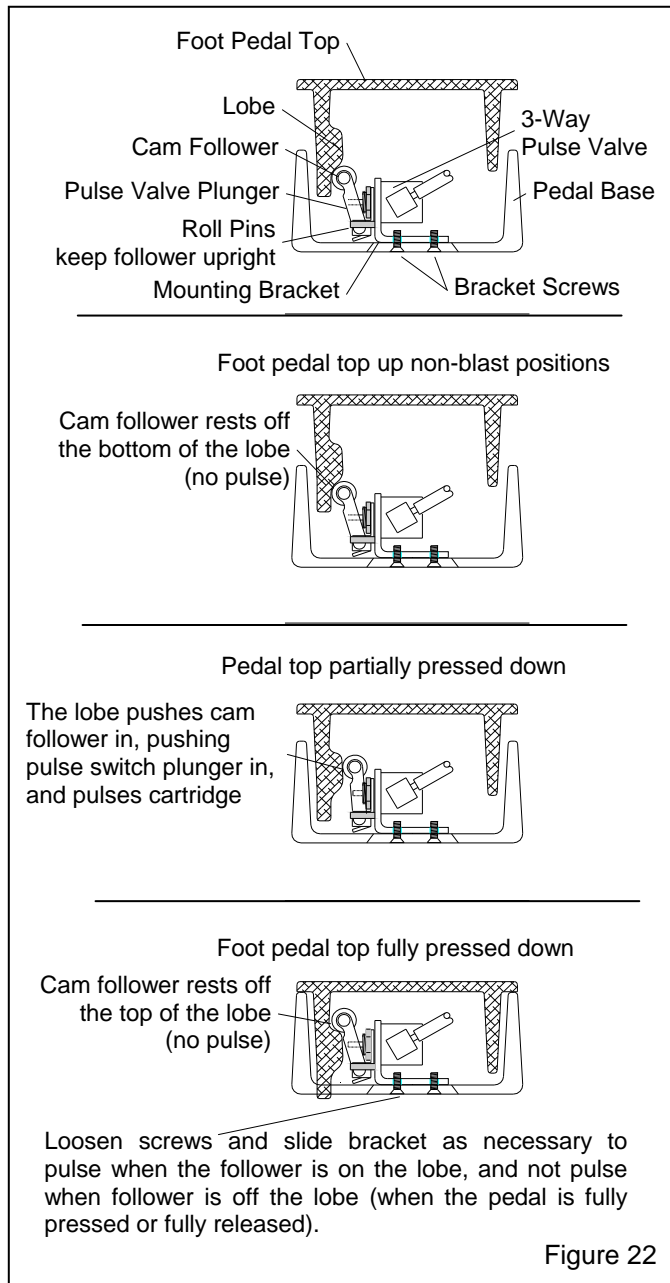

Figure 22
**8.15.2** Refer to Figure 22 and make sure the 3-way pulse valve has not come loose from the mounting bracket. Tighten the retaining nut as needed to secure.
**8.15.4** Check alignment of pulse-valve cam follower: With the exhauster running and with blast pressure adjusted to 0 psi, hold the foot pedal in hand and fully press the pedal top. The collector should pulse as the cam follower rides over the lobe on the pedal top when the pedal is pressed, and again when the pedal is released, as shown in Figure 22. Note: The pedal should be rapidly pressed and released so the cam follower quickly rides over the lobe; prolonged engagement of the pulse valve will lengthen the pulse, which does not clean the cartridge and wastes compressed air.